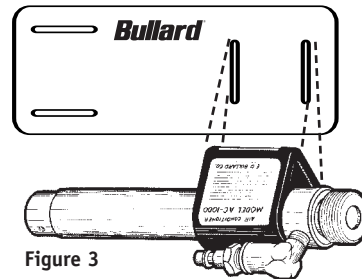
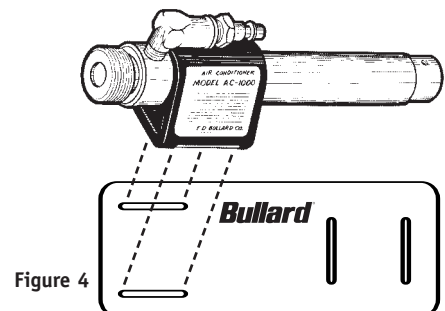

Figure 3
Figure 4
- If the device will be worn in the horizontal position, align the tube on the heat shield as shown in Figure 3. If the tube will be worn in the vertical position, align the tube on the heat shield as shown in Figure 4.